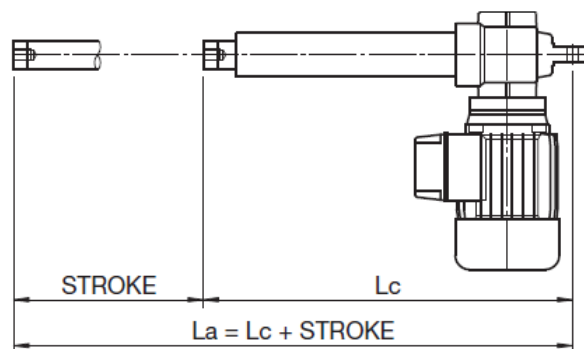

Figure 6.6 – “Lc” and “La” dimensions
FCM magnetic limit switches are supplied already fixed on extreme stroke positions Lc and La (see Fig. 6.6):
- Check if the extreme dimensions of the actuator “Lc” and “La” (see Fig. 6.6) are compatible with extreme positions of the plant component that has to be moved.
- Before to start relubrication, put the actuator in extended position (La – see Fig. 6.6)